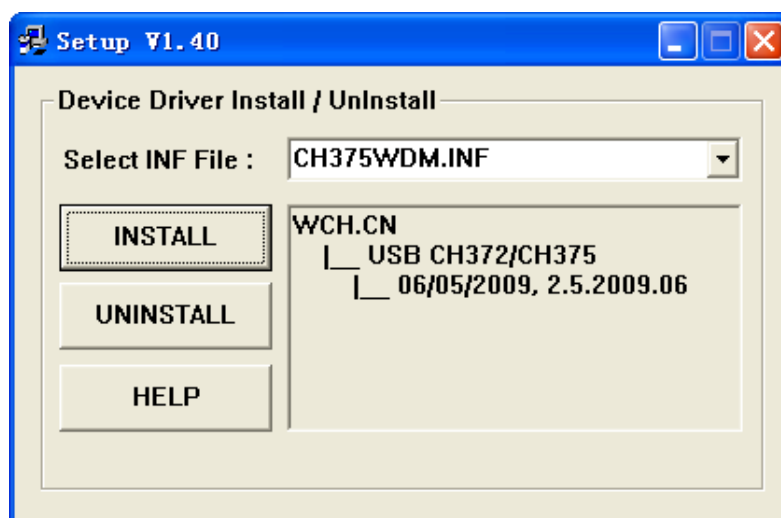

Figure 2-3
2.2. At the end of the installation procedure a pop up window SETUPV1.40 appears, which prompts to install the USB driver files. If the computer that you are installing does not be pre-installed with the USB driver, then click "INSTALL" to install driver; if the diver is already installed in your computer, close the window, as shown in Figure2-3.